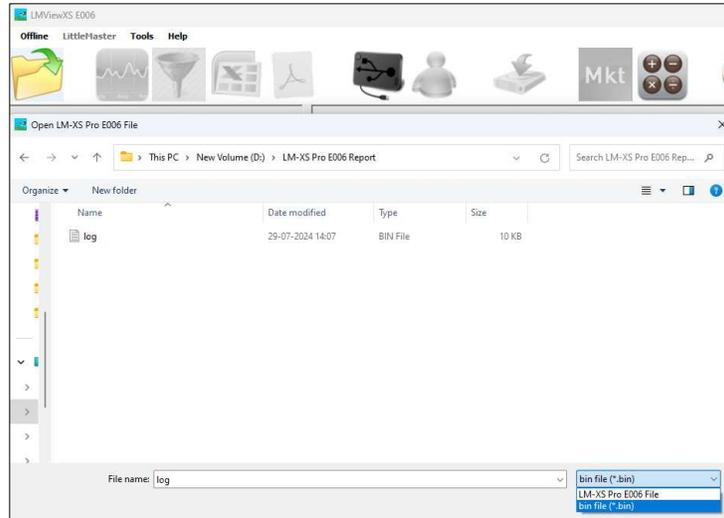

Figure 26 Open the downloaded log data
- Click on the “**Open Downloaded Batch**”  Button to open the copied Log data file of the data logger from stored location as shown in figure 26.